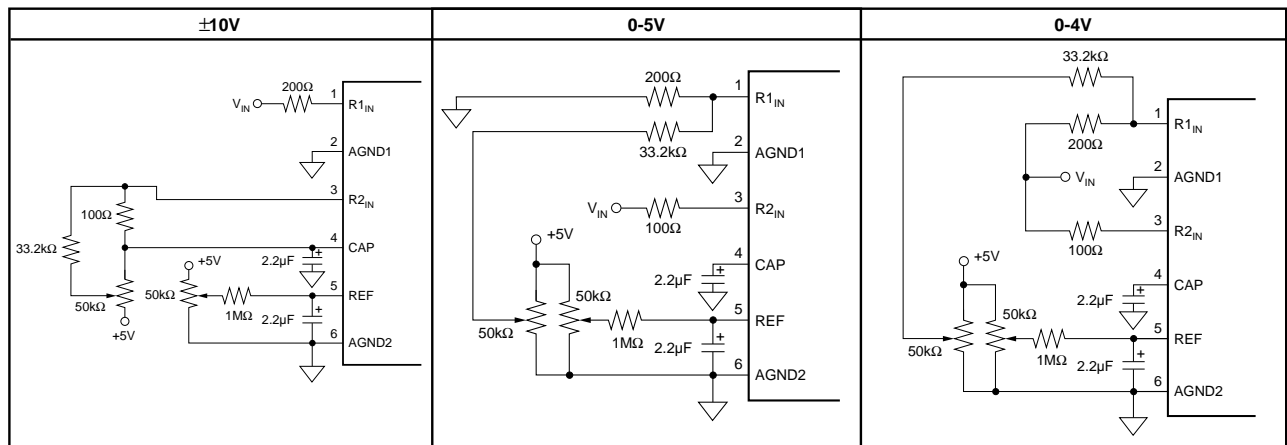
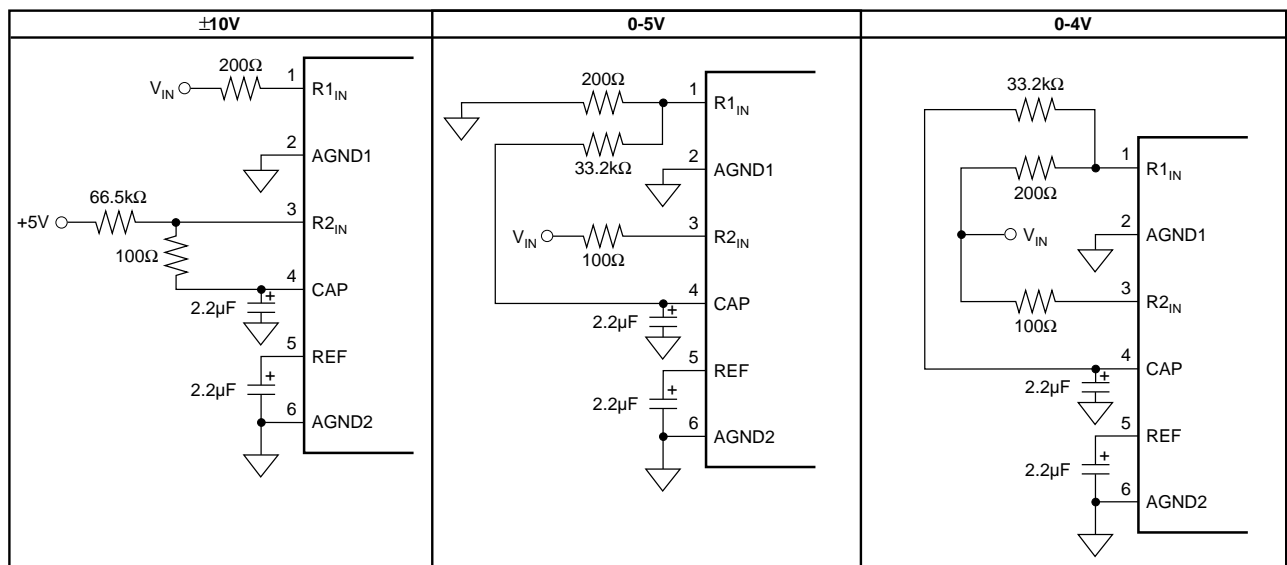
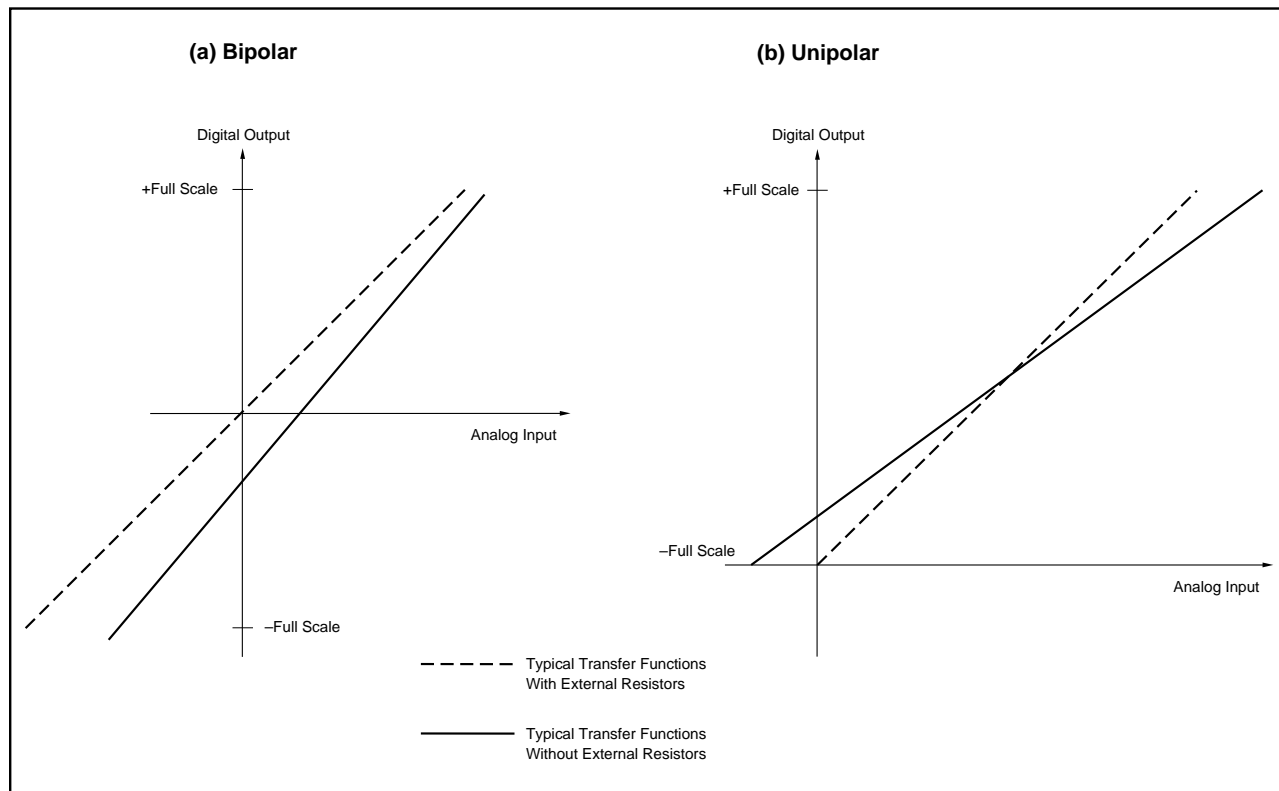

FIGURE 7a. Circuit Diagrams (With Hardware Trim).
FIGURE 7b. Circuit Diagrams (Without Hardware Trim).
FIGURE 8. Typical Transfer Functions With and Without External Resistors.
The ADS7807 offers three input ranges: standard  $\pm 10\text{V}$  and 0-5V, and a 0-4V range for complete, single supply systems. Figures 7a and 7b show the necessary circuit connections for implementing each input range and optional offset and gain adjust circuitry. Offset and full scale error(1) specifications are tested and guaranteed with the fixed resistors shown in Figure 7b. Adjustments for offset and gain are described in the **Calibration** section of this data sheet.
used for each input range (see Figure 8). The input resistor divider network provides inherent overvoltage protection guaranteed to at least  $\pm 25V$ .
To calibrate the offset and gain of the ADS7807 in hardware, install the resistors shown in Figure 7a. Table VII lists the hardware trim ranges relative to the input for each input range.
To calibrate the offset and gain in software, no external resistors are required. However, to get the data sheet specifications for offset and gain, the resistors shown in Figure 7b are necessary. See the **No Calibration** section for more
TABLE VII. Offset and Gain Adjust Ranges for Hardware Calibration (see Figure 7a).
See Figure 7b for circuit connections. Note that the actual voltage dropped across the external resistors is at least two orders of magnitude lower than the voltage dropped across the internal resistor divider network. This should be considered when choosing the accuracy and drift specifications of the external resistors. In most applications, 1% metal-film resistors will be sufficient.
The external resistors shown in Figure 7b may not be necessary in some applications. These resistors provide compensation for an internal adjustment of the offset and gain which allows calibration with a single supply. Not using the external resistors will result in offset and gain errors in addition to those listed in the electrical specifications section. Offset refers to the equivalent voltage of the digital output when converting with the input grounded. A positive gain error occurs when the equivalent output voltage of the digital output is larger than the analog input. Refer to Table VIII for nominal ranges of gain and offset errors with and without the external resistors. Refer to Figure 8 for typical shifts in the transfer functions which occur when the external resistors are removed.